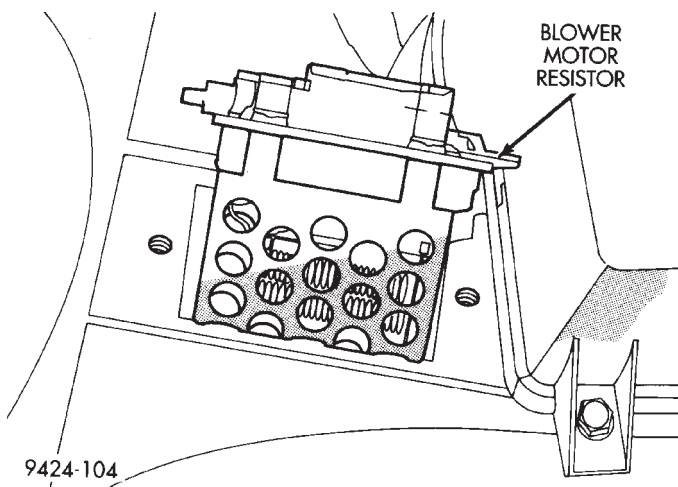

Fig. 66 Blower Motor Resistor
(11) Remove blower motor resistor (Fig. 66).